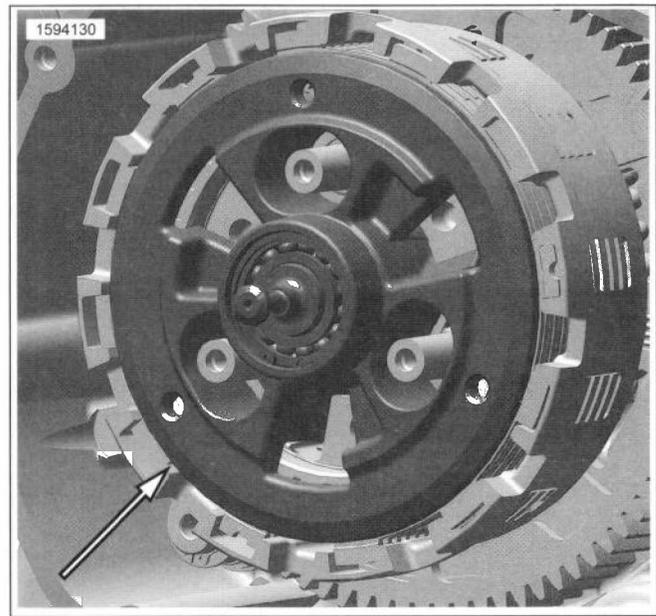

Figure 5-30. Pressure Plate
7. See Figure 5-30. Install pressure plate.